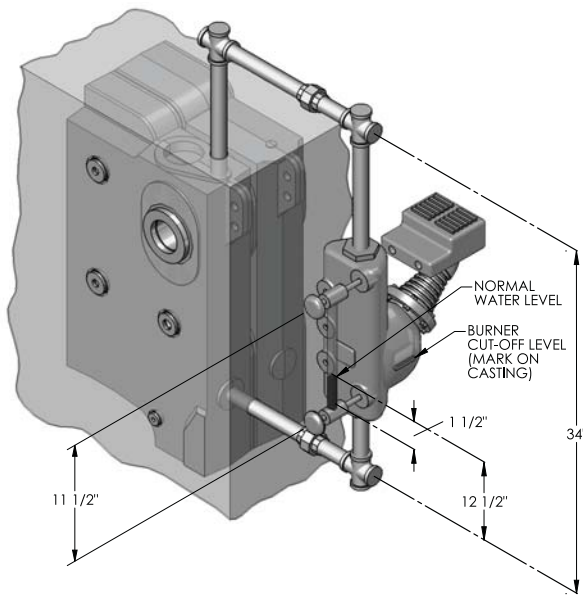

Figure 3.18: Optional Model 157 Low Water Cutoff/Pump Control
- For correct positions of common Float-type LWCO devices see Figures 3.18 through 3.19.